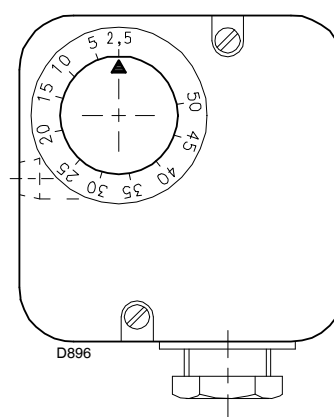

Fig. 32
- Adjust the minimum gas pressure switch to the start of the scale (Fig. 32).